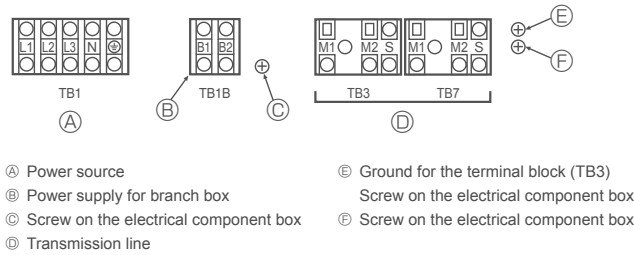

Fig. 6-1
6.2. Control box and connecting position of wiring (Fig. 6-1)
- Connect the wiring between the outdoor unit and the indoor unit or branch box to the transmission terminal block (TB3) of the outdoor unit. Connect the wiring between the outdoor unit and the centralized control system to the transmission terminal block (TB7) of the outdoor unit. When using shielded wiring, connect the ground of the shielded wiring to the shield terminal (S) of the terminal block (TB3) or (TB7). If the connection of the outdoor unit's transmission power supply connector has been changed from CN41 to CN42, connect the shield terminal (S) of the terminal block (TB7) to the screw (⑨) using the included lead wire.
- The shield (S) terminal of the transmission terminal block (TB3) is connected to the ground (⑧) when the unit is shipped from the factory.